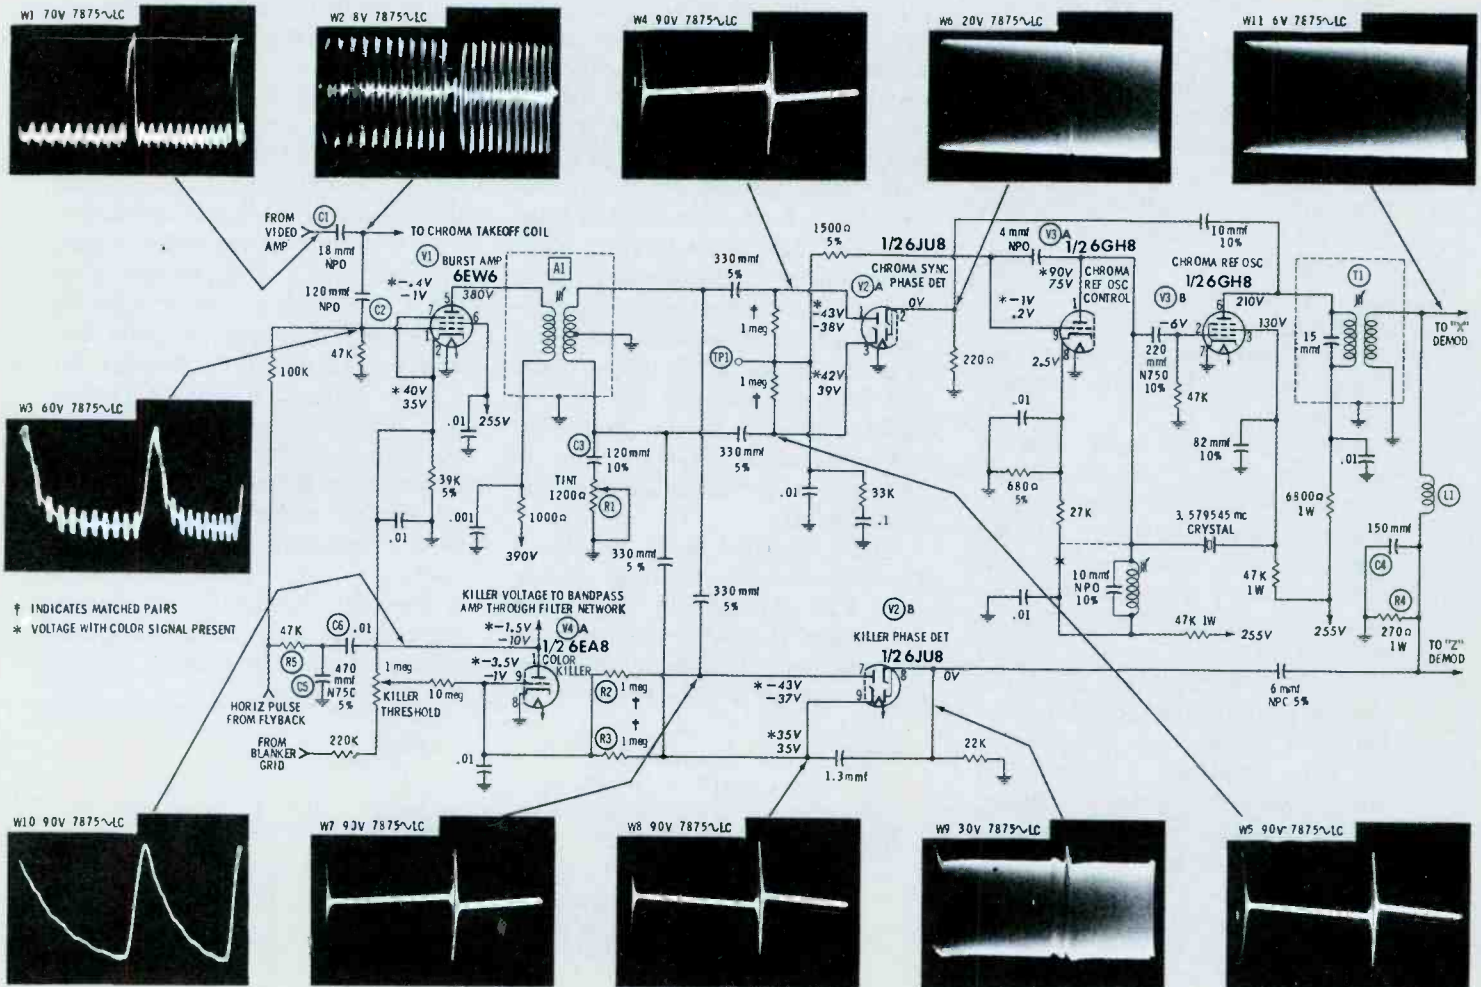

Fig. 1. RCA's CTC12 color chassis uses one-half 6JU8 in new killer detector stage this year.
each. The schematics (Figs. 1 and 2) show voltages on the tube elements (taken with and without a color signal), and peak-to-peak waveforms obtained with a keyed-rainbow color-bar generator. All waveforms were taken with a wide-band oscilloscope, using a low-capacitance (LC) probe.
The color sync section of the CTC12 chassis (Fig. 1) includes the burst amplifier, chroma sync phase detector, chroma reference oscillator and its control circuit, and